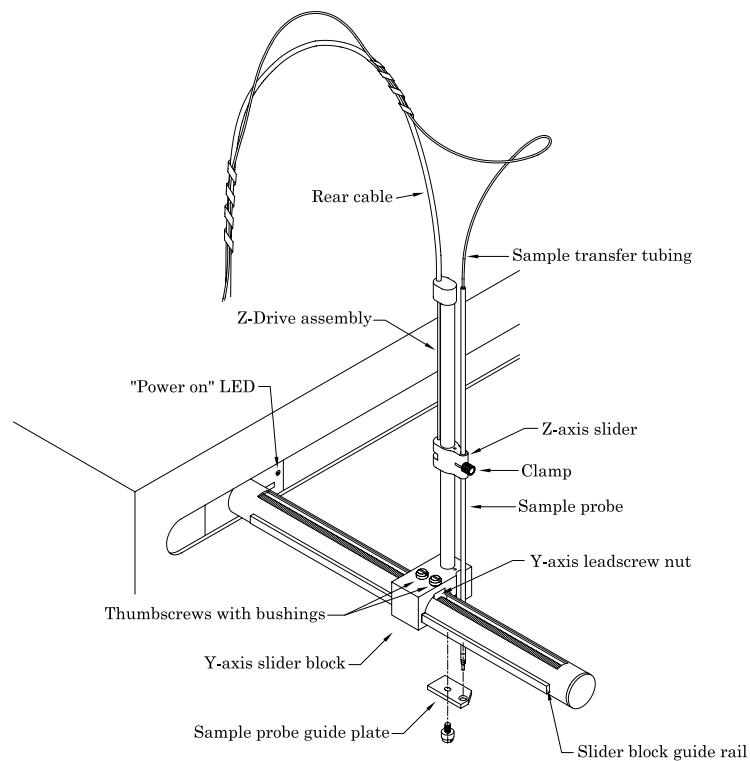

Figure 3-1. Z-drive Assembly.
Mounting the z-drive assembly on the Auto Sampler is the first major task. The z-drive assembly must be attached to the Auto Sampler arm to allow movement and function of the sample probe. Figure 3-1 illustrates the z-drive assembly components.
To attach the z-drive assembly to the Auto Sampler arm, complete the following steps, with reference to Figure 3-1.
The PEEK cable goes to the right side of the z-axis rotor (as viewed from the back of the Auto Sampler. See Figures 3-1 and 3-2. Failure to connect the cables correctly will result in Auto Sampler malfunction. See also the *Z-Drive Assembly Quick Installation Guide*.
- 4 Leave approximately 105 millimeters of the sample probe's yellow-colored support tube extending above the top of the z-axis slider (with the slider at the top of the z-axis drive). Tighten the clamp. Clamp must be positioned as shown in figure 3-1.**
- 1 Adjust the z-axis slider (with attached sample probe) so that the slider is approximately 3-millimeters below the top of z-axis drive (see Figure 3-1).**